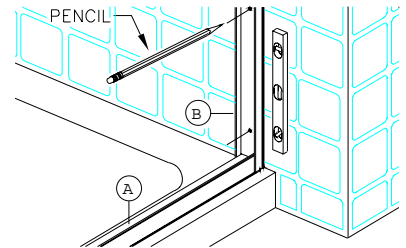

figure 4
5. Place Wall Jamb (B) on to ends of Sill (A) and up against shower walls as shown in figure 4. Plumb the Jamb, then pencil mark their installation holes locations on the shower walls (3 per jamb). Remove Wall Jamb. Using a 3/16" masonry bit, drill 1" deep installation holes in locations previously marked. Insert Plastic Screw Anchors (H) into holes.